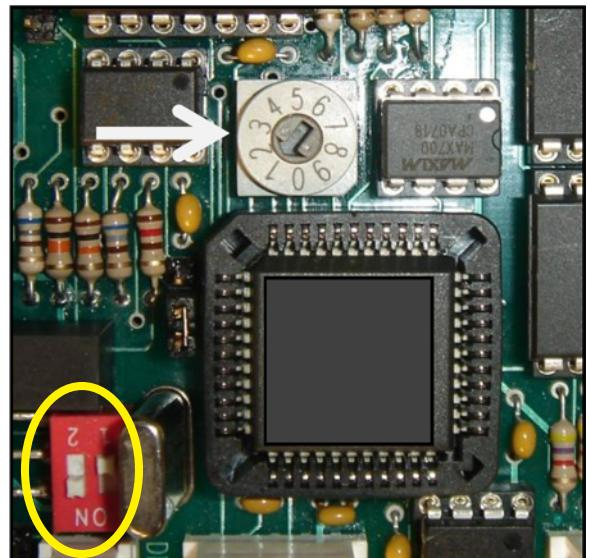

Figure 3-46 Zoom and Focus Grey Coding Wheel
7. Ensure that the grey coding wheel (arrow in **Figure 3-46**) on the Zoom and Focus board is set to “1” and that the DIP switches (circled in **Figure 3-46**) are set as shown (switch #1 OFF, switch #2 OFF).